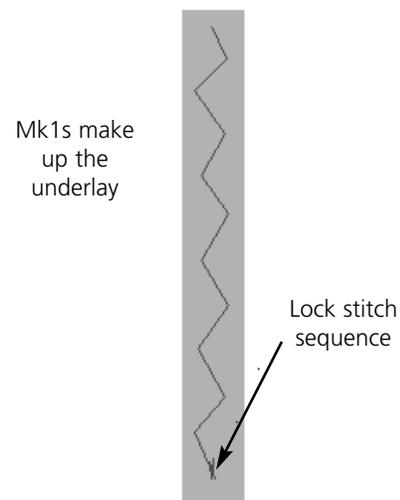

Figure 5-19
1. Select Needle Up, put a Mk1 at the bottom portion of the letter **I**, then select Normal Stitch (see Figure 5-19). To keep stitching inside the letter, put the Mk1 inside the letter, not on the line.
3. Lay down a running stitch underlay in a slight zig zag pattern of Mk1s up the length of the letter **I** (see Figure 5-19).